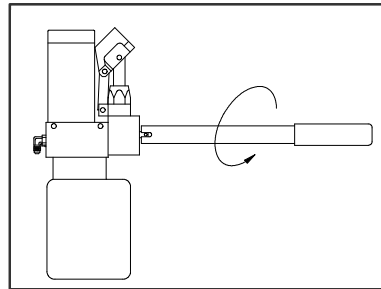

FIGURE 3-26: OPEN RELEASE VALVE
- 7) Refer to **Figure 3-26**. Engage pump release valve with notched end of pump handle. Turn valve 1/4 turn COUNTER-CLOCKWISE to begin lowering platform. Hold valve open until platform settles at ground level. Turn handle CLOCKWISE to close valve; DO NOT OVERTIGHTEN VALVE.